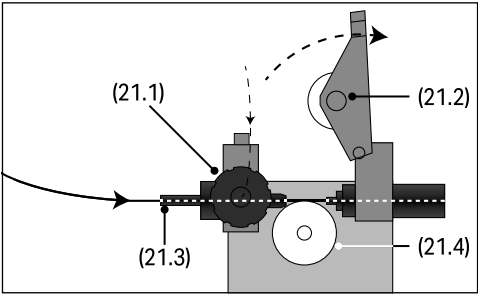

Fig. 1
6.4 Installing the Filler Wire (MIG WELDER) – FIGS. 1 - 5